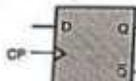

Fig. 5.4.12 (a) Logic symbol
- The truth table for D flip-flop consider only these two conditions and it is as shown in the Fig. 5.4.12 (b).